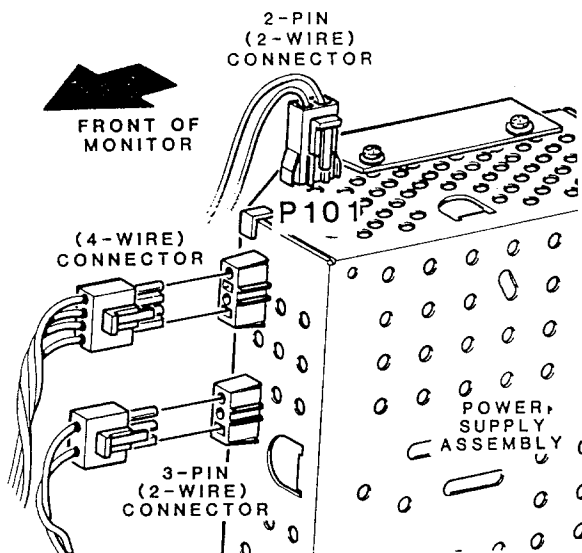

Figure 3-15. Power Supply Assembly Connectors
2. Disconnect connector P101 (2-pin, 2-wire) from the top of the power supply assembly and the 3-pin, 2-wire and 4-pin, 4-wire connectors from the front of the power supply assembly, as shown in Figure 3-15.